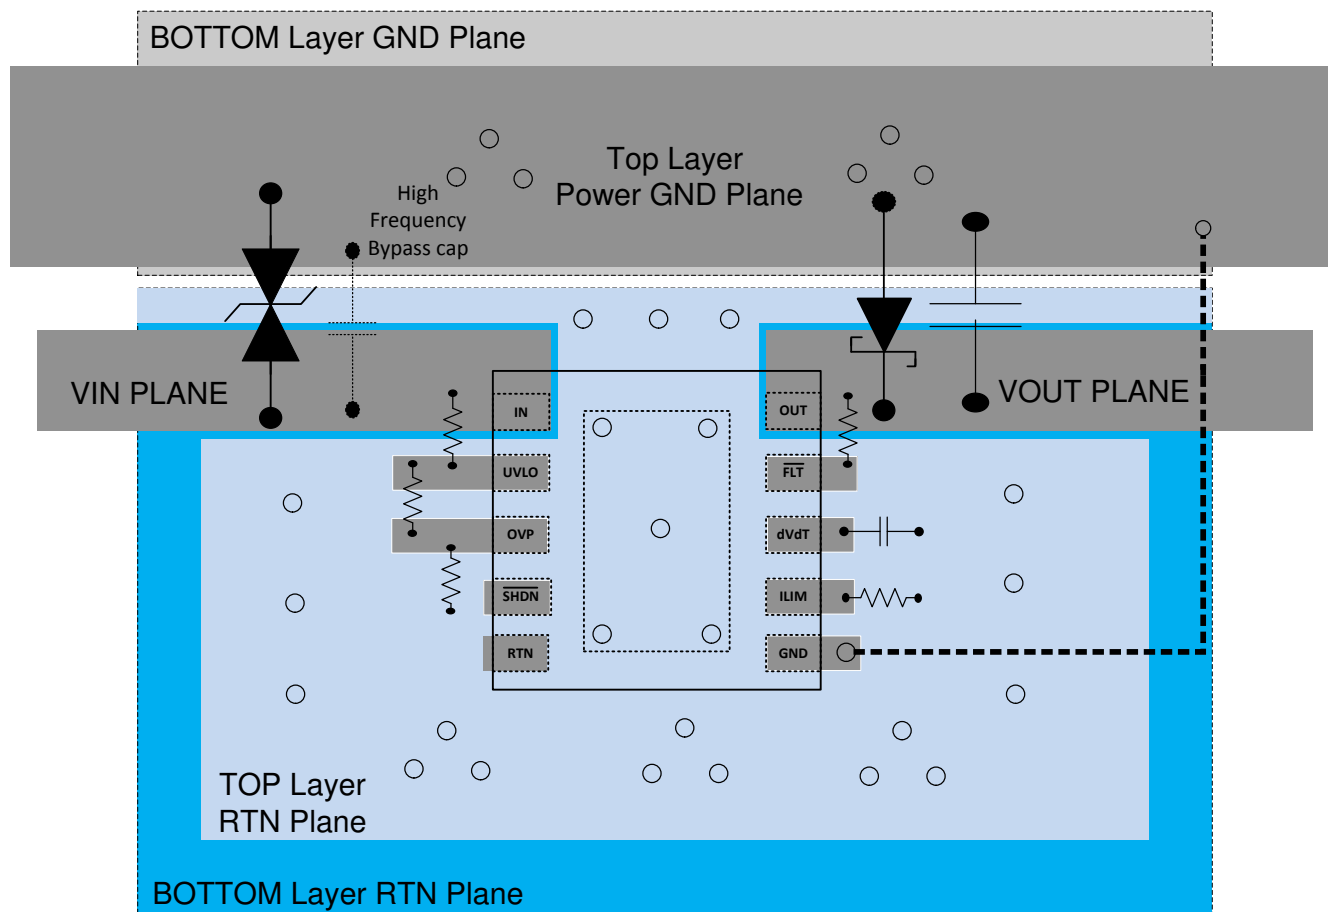

Figure 12-1. Typical PCB Layout Example With a 2 Layer PCB
- The optimum placement of decoupling capacitor is closest to the IN and GND terminals of the device. Care must be taken to minimize the loop area formed by the bypass-capacitor connection, the IN terminal, and the GND terminal of the IC. See Figure 12-1 for a typical PCB layout example.